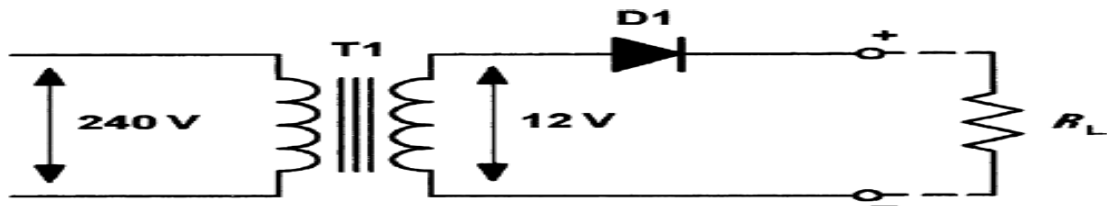

Fig. 1.2: A simple half-wave rectifier circuit
- Figure 1.2 shows a simple half wave rectifier circuit.